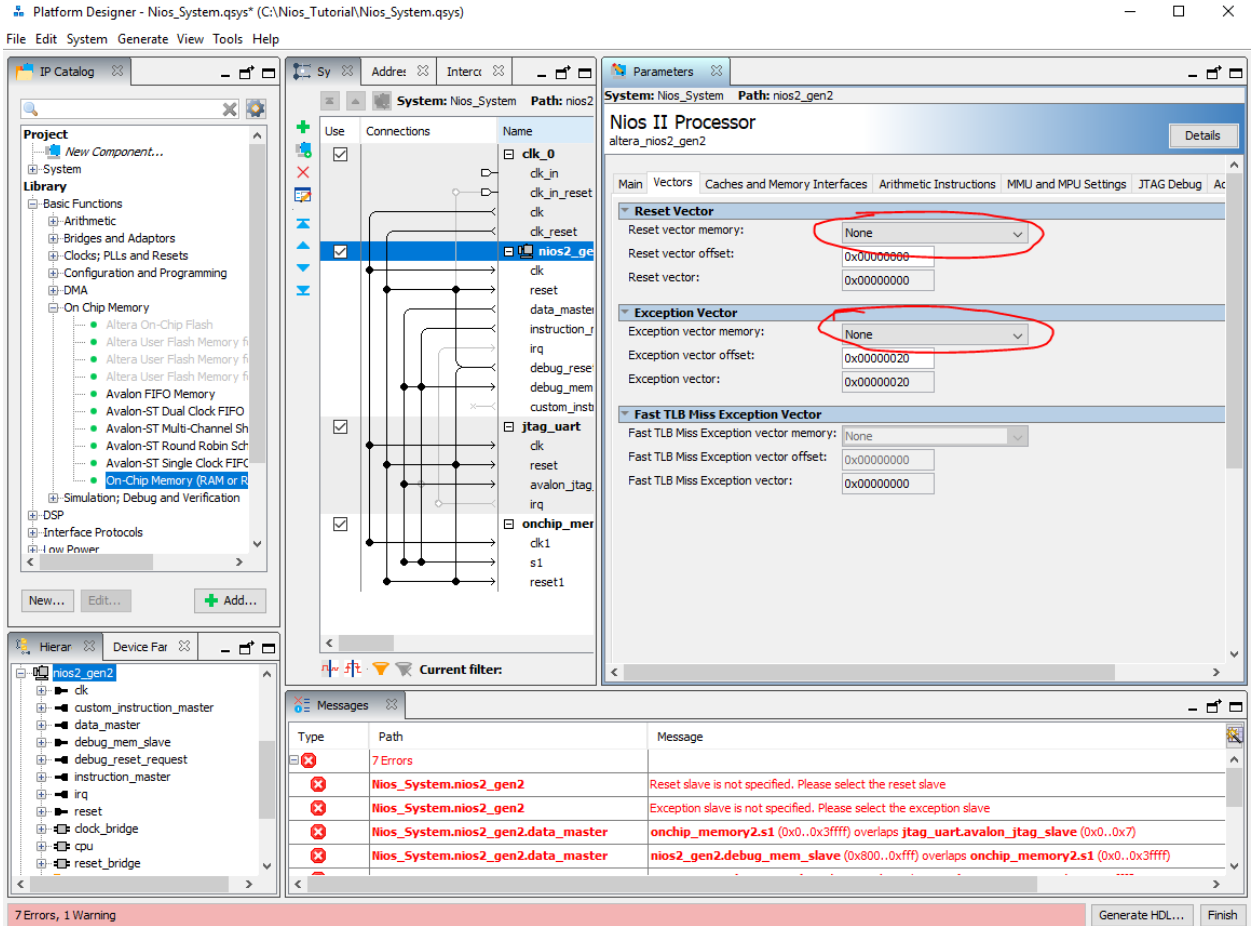

Figure 1-17 Changing processor to use on-chip memory.
12.) We will now connect the Nios CPU to the memory. To do this we will click on the **Nios2_gen2** component to open its settings. Then we will go to **Vectors** and change the **Reset Vector** and **Exception Vector** to the **On-Chip memory** as shown in Figure 1-17 and 1-18.